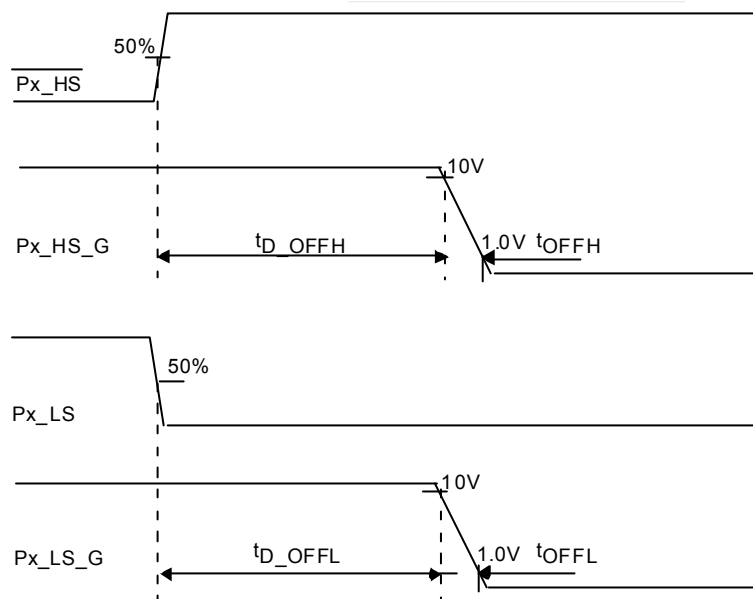

Figure 8. Driver turn-off time and turn-off delay
| t_{OFFH} | High-side turn off time • Transition time from 10 V to 1.0 V, load: $C = 500\text{ pF}$, $R_{\text{G}} = 0$, (Figure 8) | – | 20 | 35 | ns | (42) |
| $t_{\text{D_OFFH}}$ | High-side turn off delay • Delay from command to 10 V, (Figure 8) | 130 | 265 | 386 | ns | (43) |
| t_{OFFL} | Low-side turn off time • Transition time from 10 V to 1.0 V, load: $C = 500\text{ pF}$, $R_{\text{G}} = 0$, (Figure 8) | – | 20 | 35 | ns | (42) |
| $t_{\text{D_OFFL}}$ | Low-side turn off delay • Delay from command to 10 V, (Figure 8) | 130 | 265 | 386 | ns | (43) |